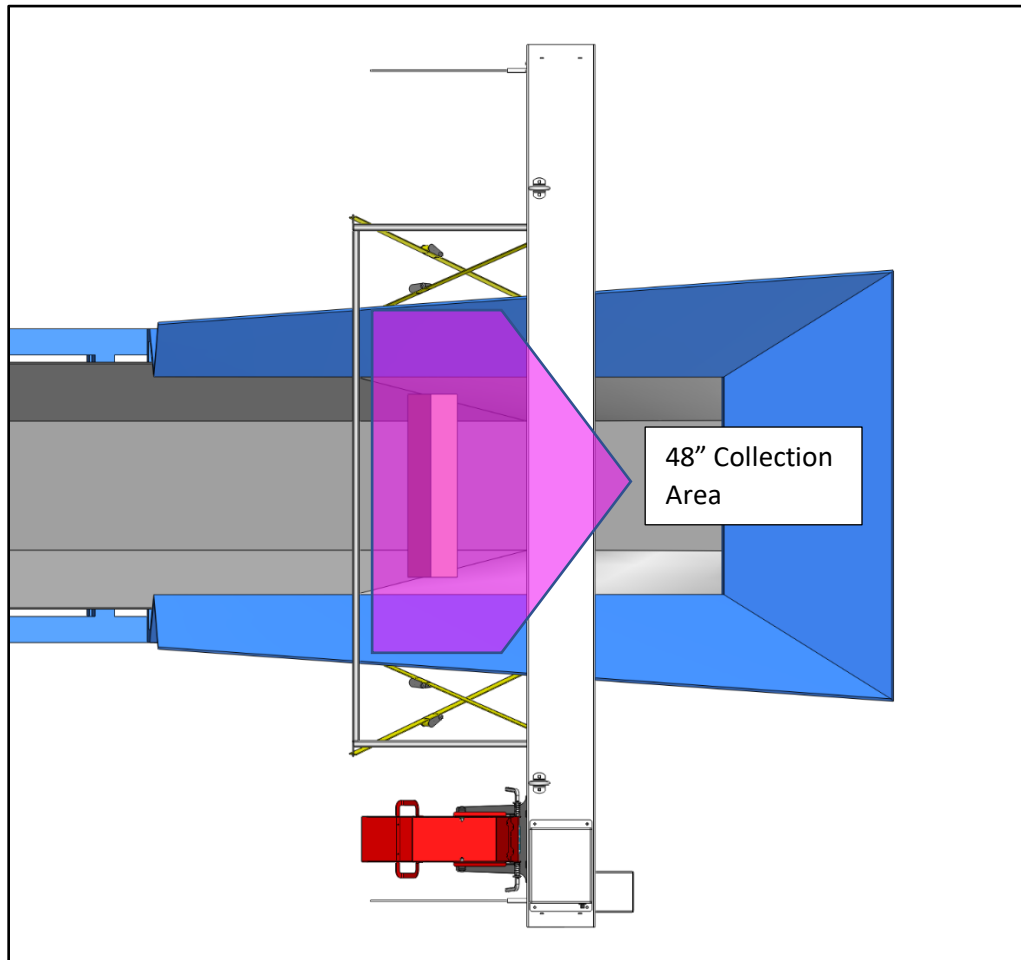

Figure 5 – Showing collection area (pink)
- Care must be taken to center the A-1000 from side to side in the stream from which it is sampling. Centering the A-1000 over the center 48" area is important to collect a proper sample (including any material coming off a belt scraper if applicable). See Figures 5 and 6.